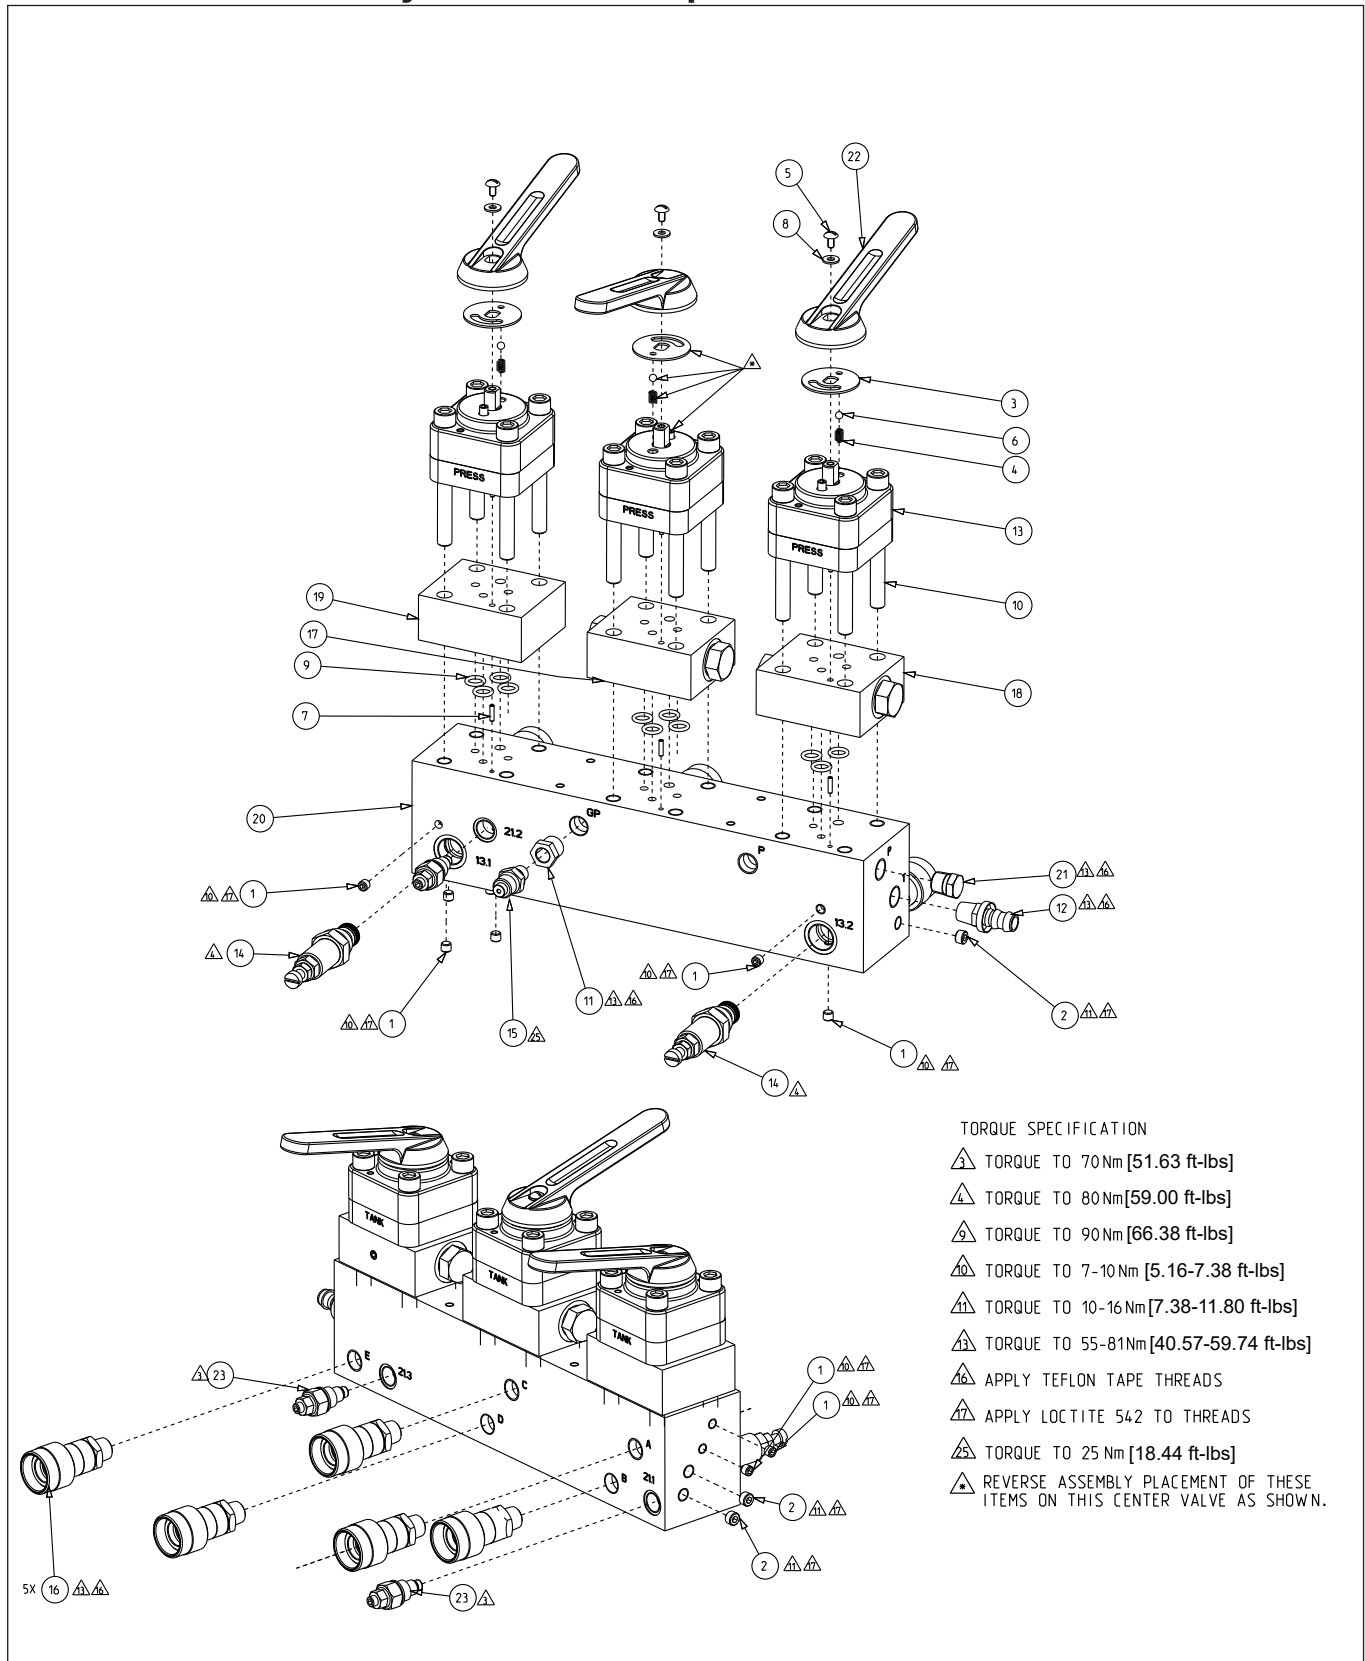

Figure 21: Exploded View - Manifold Assembly
9.3.1 Manifold Assembly LGH100900 Table of Parts (Figure 21)